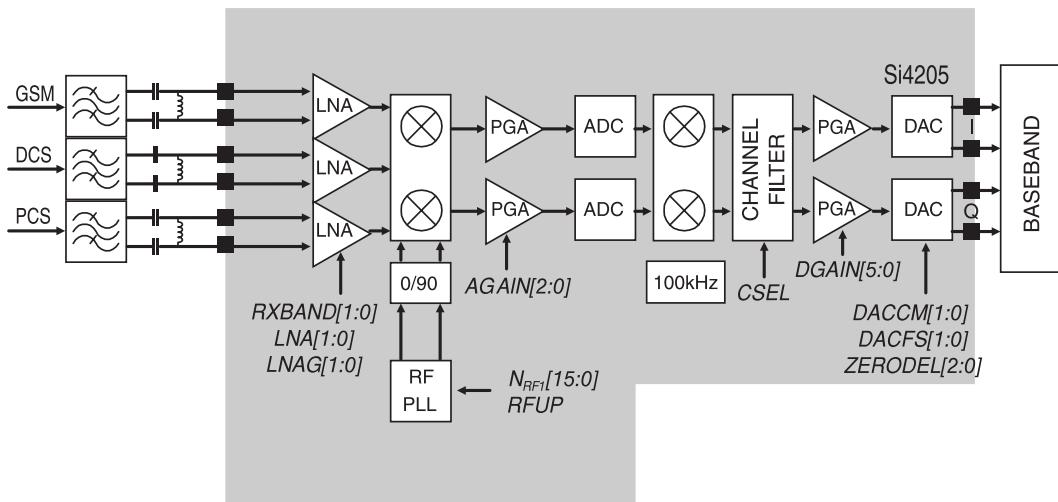

Figure 3-2. SI4205 RECEIVER PART
The LNA inputs are matched to the  $150\Omega$  balanced output SAW filters through external LC matching networks. The LNA gain is controlled with the LNAG[1:0] and LNAC[1:0] bits in register 05h (Figure 3-2).
A quadrature image-reject mixer downconverts the RF signal to a 100KHz intermediate frequency (IF) with the RFLO from the frequency synthesizer. The RFLO frequency is between 1737.8 to 1989.9 MHz, and is internally divided by 2 for GSM 850 and E-GSM 900 modes. The mixer output is amplified with an analog programmable gain amplifier (PGA), which is controlled with the AGAIN[2:0] bits in register 05h (Figure3-2). The quadrature IF signal is digitized with high resolution A/D converters (ADCs).